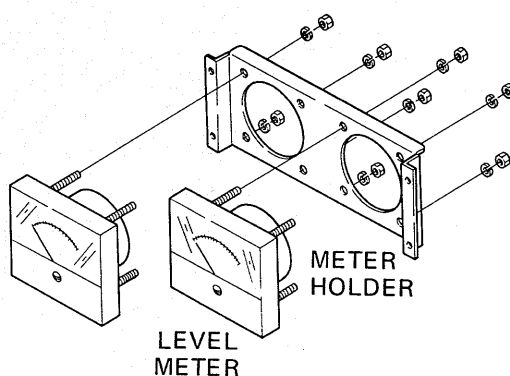

Fig. 28
3. Remove the four screws from the meter holder as shown in Fig. 28.